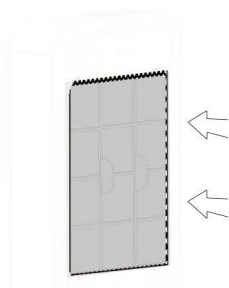

Fig. 6
7. Install the prefilter (2) in the air purifier so that all snap fasteners are engaged (fig. 6). When the filter is installed the grill handles should face outwards.